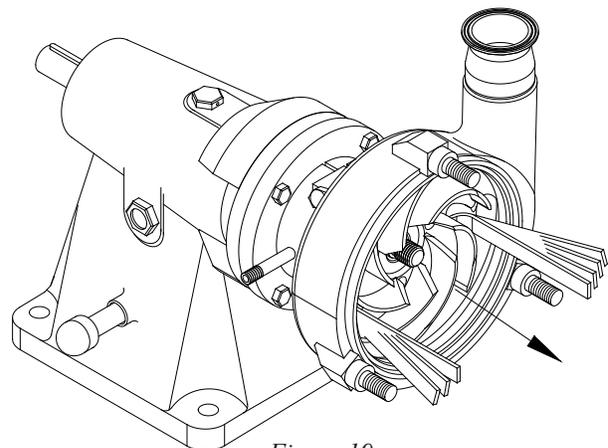

Figure 19
- e) Remove the impeller (42) from the pump shaft by grasping an impeller blade in each hand and pulling the impeller toward you. If the impeller is difficult to pull off the shaft, wedge the tack pullers between the pump housing and the back of the impeller and pry off the impeller (**Figure 19**).